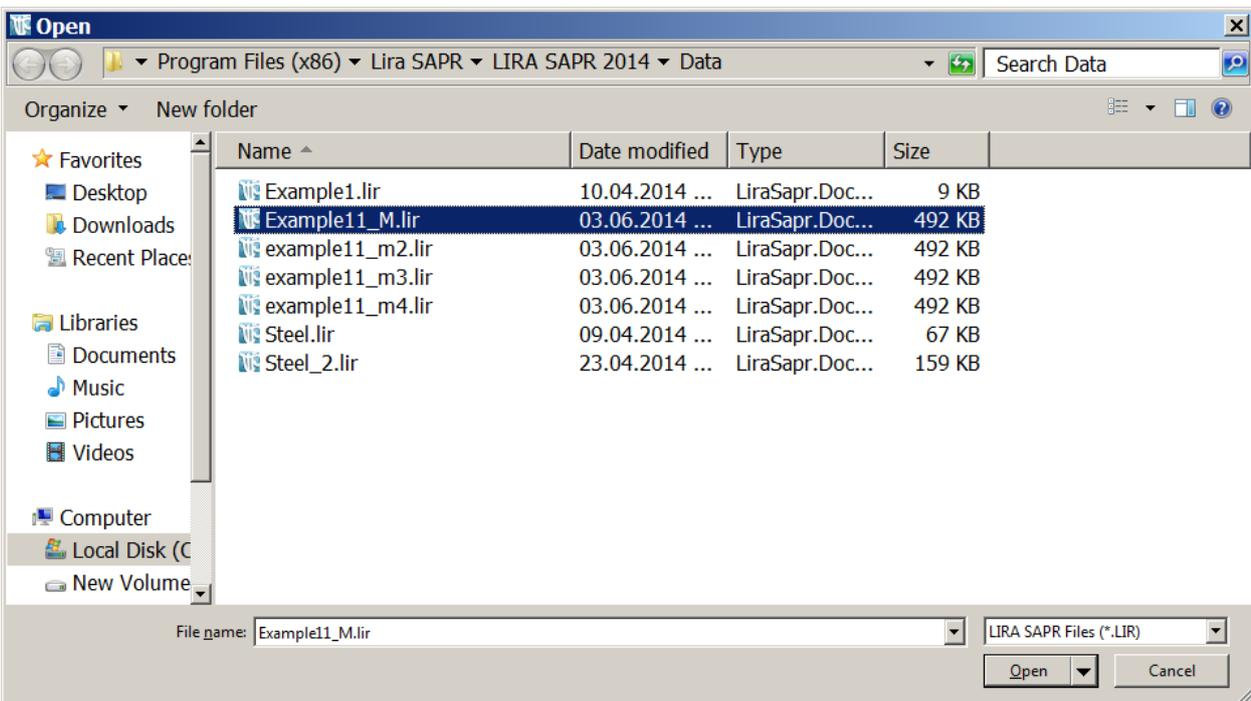

Figure 11.30 Open dialog box
- ⇒ In the **Open** dialog box (see Fig.11.30), open folder where all analysed problems are saved (by default, *Data* folder), select the *Example11_M.lir* file in the list and click **Open**.